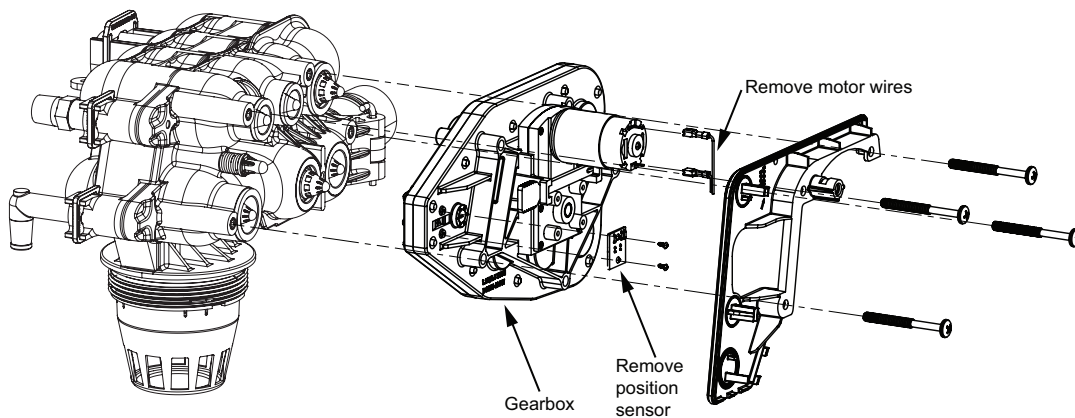

Figure 59. HE 1.5 gearbox.
6. Remove the four large Phillips head screws which attach the gearbox to the valve body. See Figure 59.